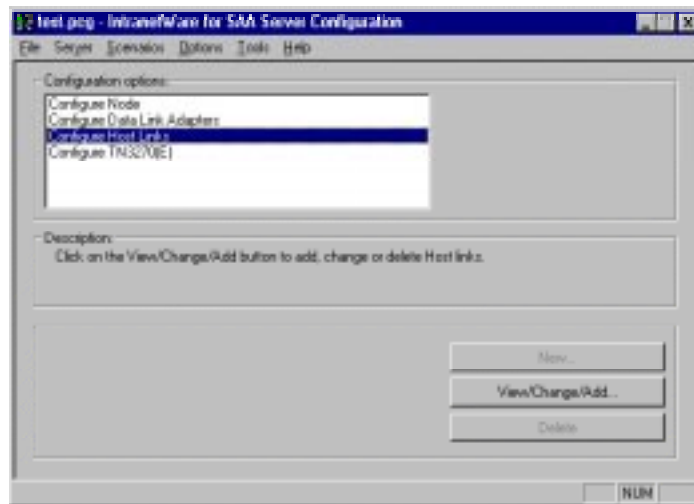

Figure 15-27. To Verify Host Links
3. Click **Cancel** to return to the main configuration menu. Double click “**Configure Host Links**” (Figure 15-27).